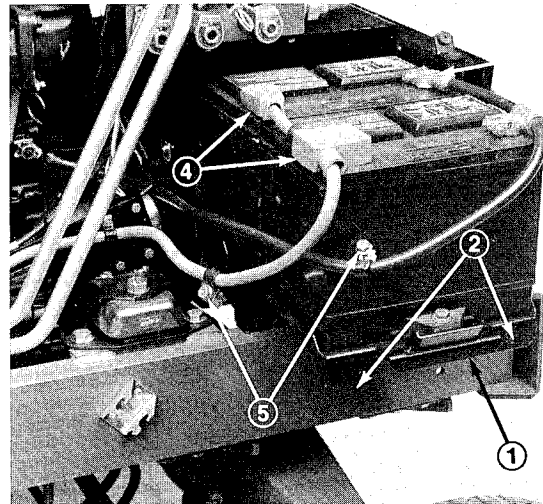

Figure 2
2. Remove the capscrews securing the battery tray and slide the tray out (Fig. 2).
4. Remove negative (–) battery cables from batteries (Fig. 2). Connect a 3 to 4 Amp battery charger to the posts. Charge the batteries at a rate of 3 to 4 Amperes for 4 to 8 hours.